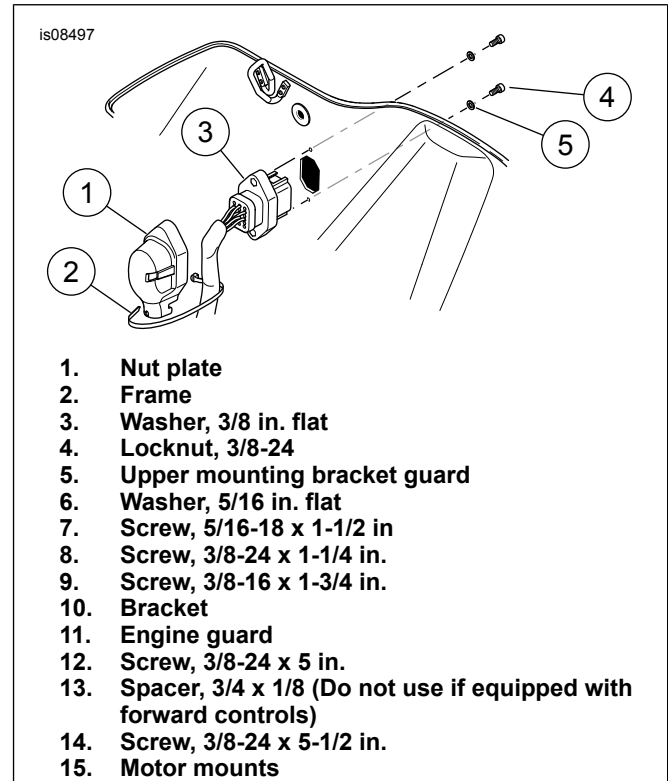
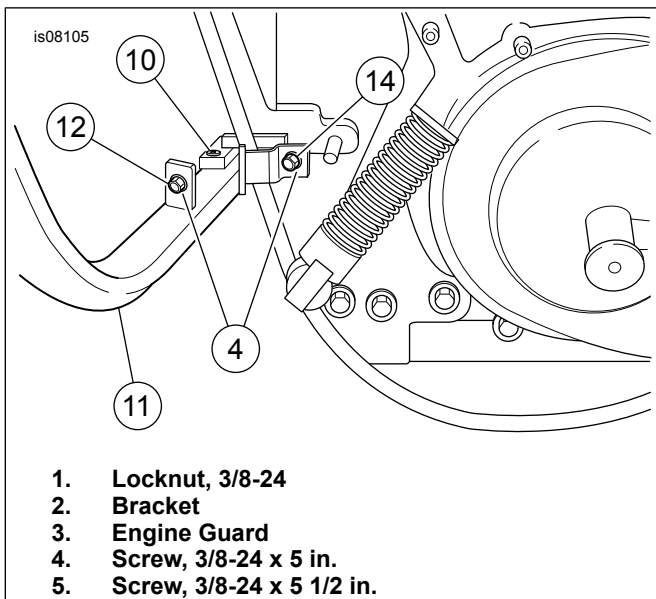

Figure 1. Disassembly/Installation (Alternator Models)
Figure 2. Hardware Positions - Late 1984 and Later Models
1. See Figure 1. From underside of steering head remove screws (7, 8, or 9) and flat washer (6). Discard original screws and washer.
3. See Figure 1 and Figure 2. Place washer (3) on 5-1/2 in. long screw (14). Insert screw (14) through one motor mount, through spacer (13) (unless engine guard is being installed on a vehicle equipped with forward controls, in which case DO NOT USE SPACER), through the offset end of bracket (10), and (with large offset toward jiffy stand side of vehicle) through the other motor mount. Place kit supplied washer (3) on end of screw (14) and secure with locknut (4). Be sure bracket does not pinch wiring. On 1986 and later models be sure bracket does not contact oil pressure switch.
4. See Figure 1. Position engine guard (11) upper mounting bracket under the steering head.